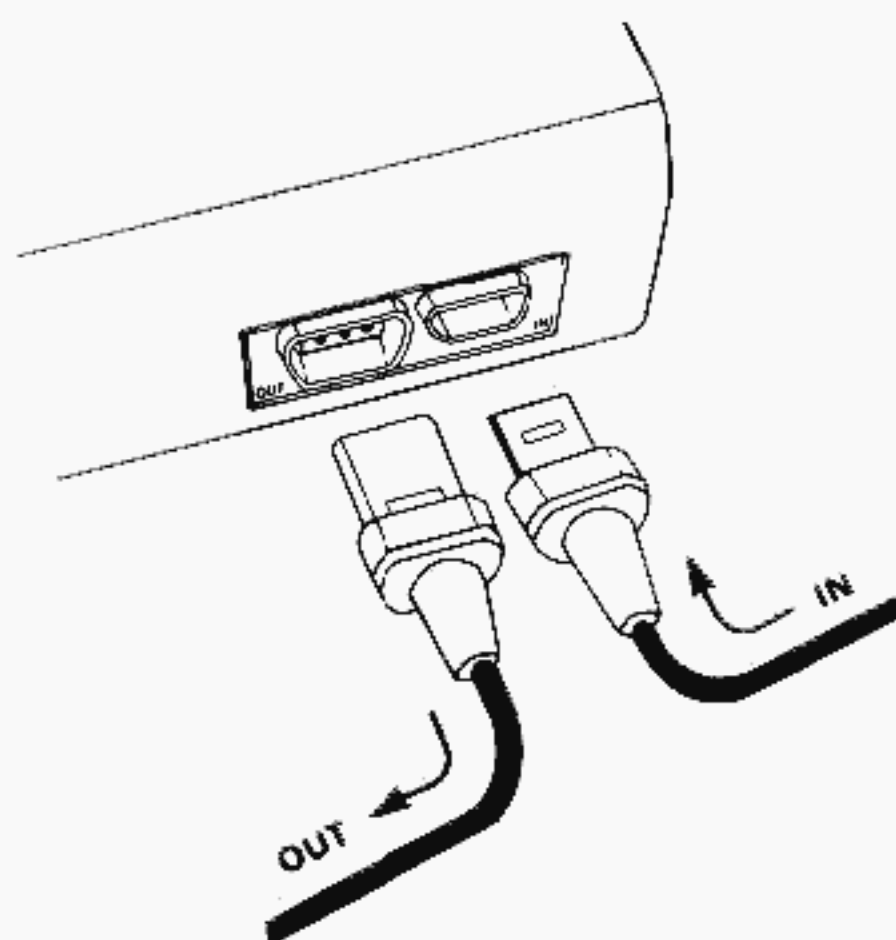

Figure 5-3. Typical HP-IL System Interconnection
The 3468A may be connected at any point in the loop. Refer to Figure 5-3. HP-IL connections to the 3468A are by two cables, one going to the previous instrument in the loop (IN) and the other going to the next instrument (OUT). All of the interface cables must form a continuous loop. All connectors are designed for proper orientation. To connect a device such as the 3468A, first turn off the calculator and the device to be added to the loop. Then, disconnect the loop in one place and connect the 3468A into the loop at that place. All devices must be turned on for the interface to work properly. The calculator assigns new addresses to each device at turn-on. Total cable length between any two consecutive devices in the loop must not exceed 10 meters (33 feet) for standard cable.